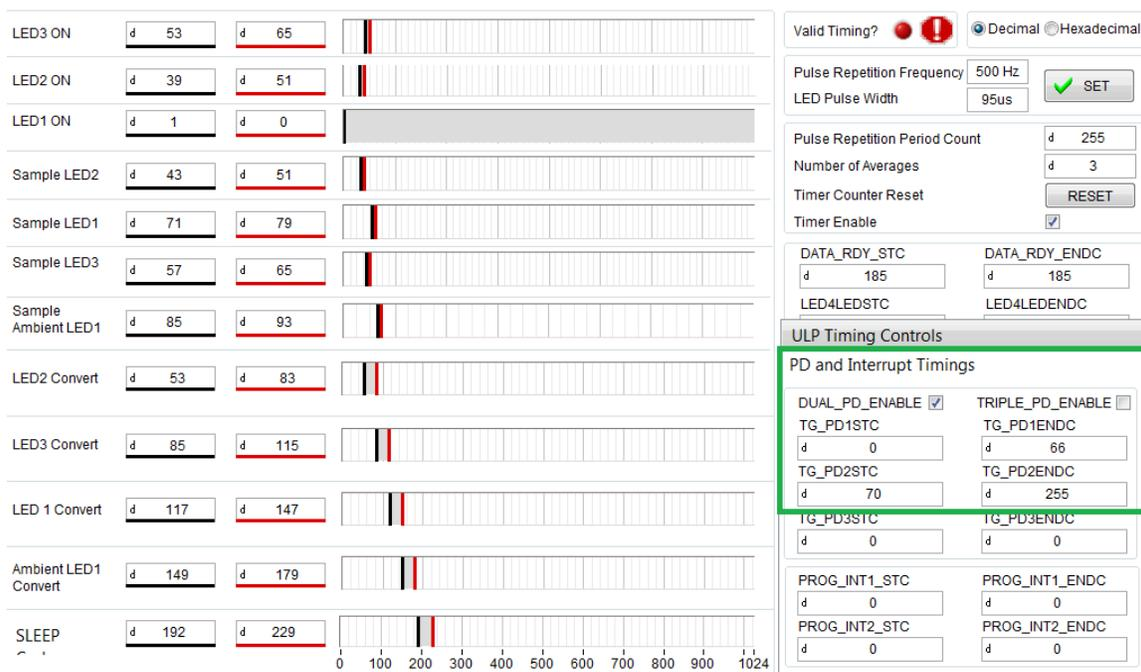
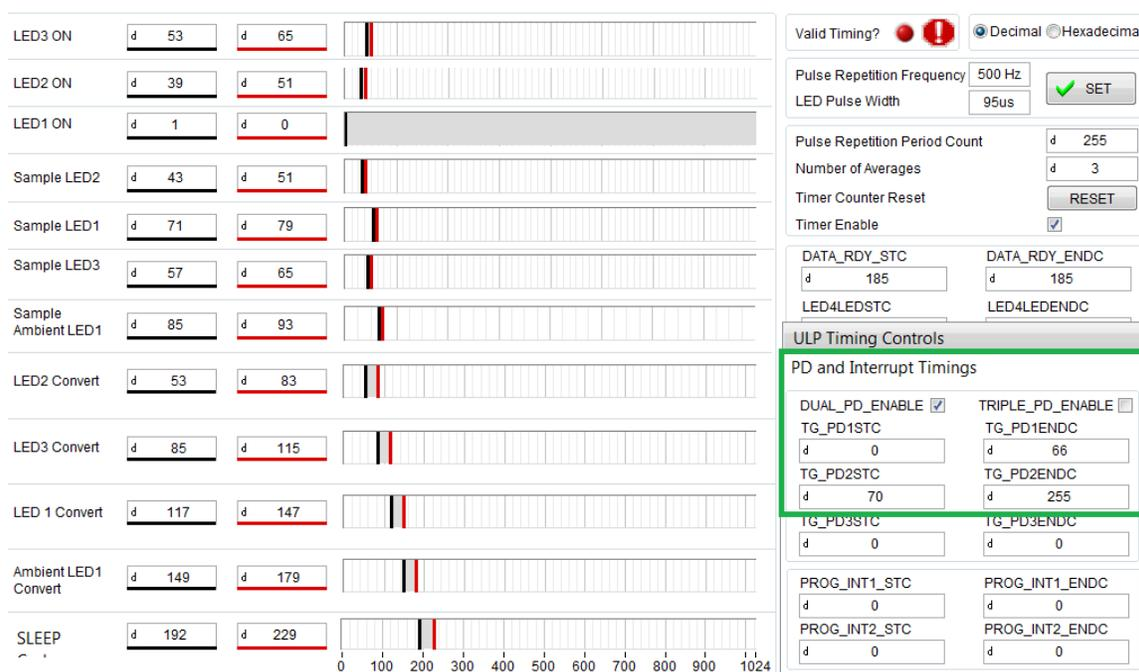

Figure 3-7. Timing and Settings for SFH 7072 PPG Sensor
Figure 3-8. Timing and Settings for OCS112 PPG Sensor
- LED4 (IR) of the SFH7072 = connected to TX3 of the AFE4900 device
- The Dual\_PD\_Enable bit is set in the 0x4E register in the AFE4900 device (see Figure 3-7).
Because this sensor has only one PD, the Dual\_PD\_Enable bit is not set in the 0x4E register in the AFE4900 device (see Figure 3-8). PD1 of the AFE4900 device is always connected to PD of the sensor.
Figure 3-7 and Figure 3-8 are screen shots from the AFE4900EVM GUI (available at [AFE4900EVM](http://AFE4900EVM)).